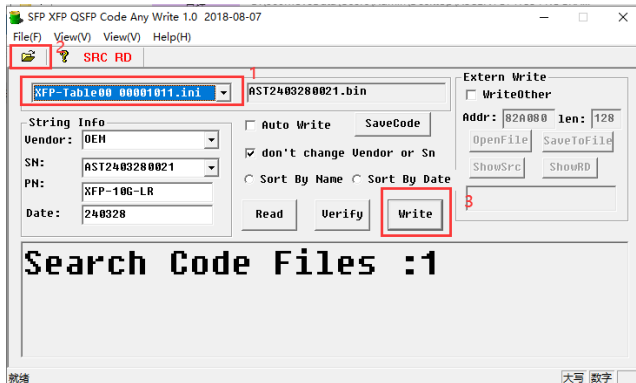

Figure 32
3.1 Select the configuration file "XFP-Table00 00001011" corresponding to the 100G LR optical module with the password "00001011" (as shown in Figure 32)
3.2 Click  Or select the menu: File->Select Code Source Folder, select See below,choose the folder where you saved the codes, Click OK. (as shown in Figure 32)
3.3 Click the "Write" (as shown in Figure 32)
3.6 Click  Or select the menu: File->Select Code Source Folder, select See below,choose the folder where you saved the codes, Click OK. (as shown in Figure 32)